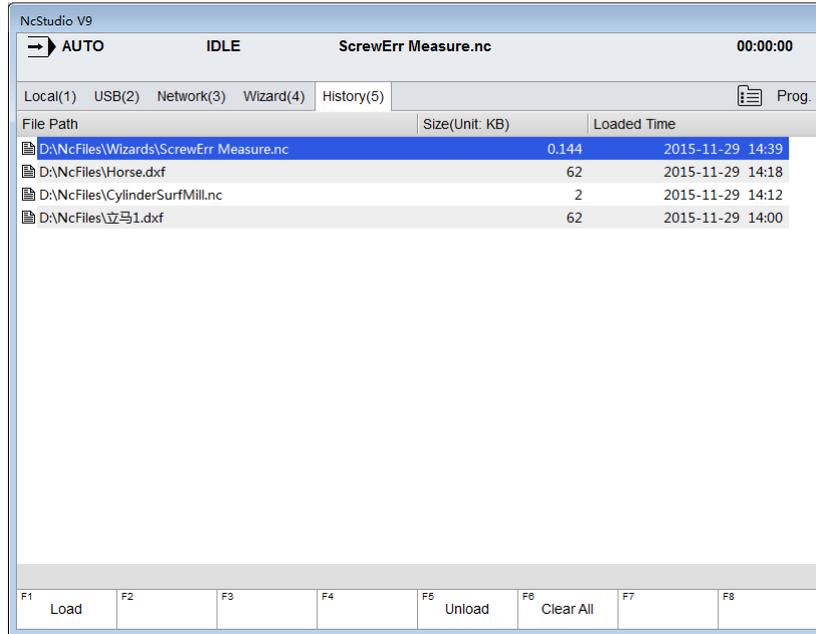

Fig. 3-75 Interface 「History (5)」
Press key  to access functional area [Program] and press key “5” to open interface 「History (5)」 as shown in Fig. 3-75. A maximal of 22 records of successfully loaded program files are displayed on the interface. The most recently loaded file is shown at the first place. When the record number exceeds 22, the software will automatically clear the most remote records.